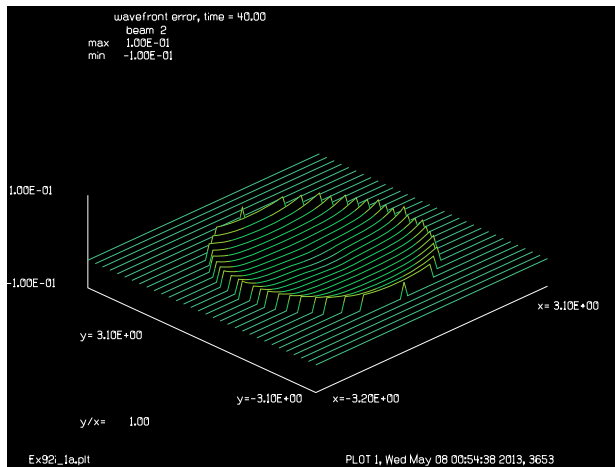
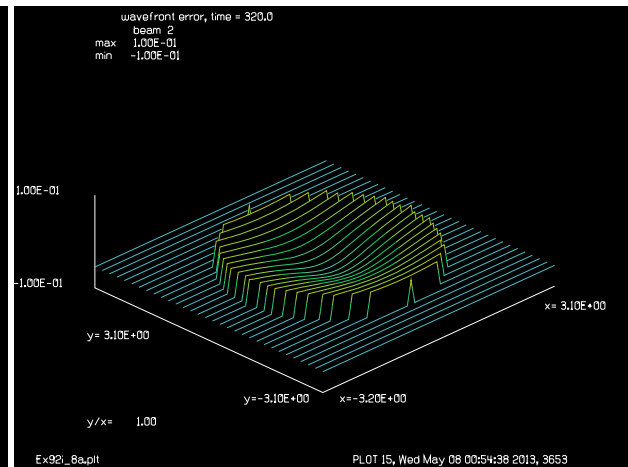

Fig. 1.26. Wavefront distortion after 40 seconds of end pumping for Ex92i.
Fig. 1.27. Wavefront distortion after 320 second of end pumping. Distribution is approaching steady state for Ex92i.
- Example Ex92i has been added to demonstrate how a thermal window would impact a laser mode from heating due to continual end pumping. Figure 1.26 shows the wavefront distortion of a window after 40 seconds of end-pumping. Figure 1.27 shows the wavefront distortion after 320 seconds. Figure 1.28 portrays the drop in Strehl Ratio over the 320 seconds and illustrates the temperature distribution is approaching the steady state condition.